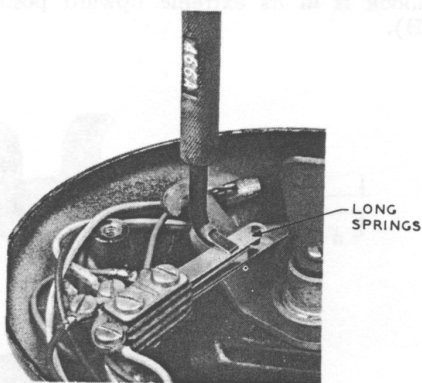

FIG. 4A—LONG SPRING CONTACT ADJUSTMENT
- 3.07** Contact springs should be adjusted with a 466A tool. When adjusting long springs, move the 466A tool along spring, bowing slightly to increase or decrease tension. Be careful not to injure contacts. (See Fig. 4A.)